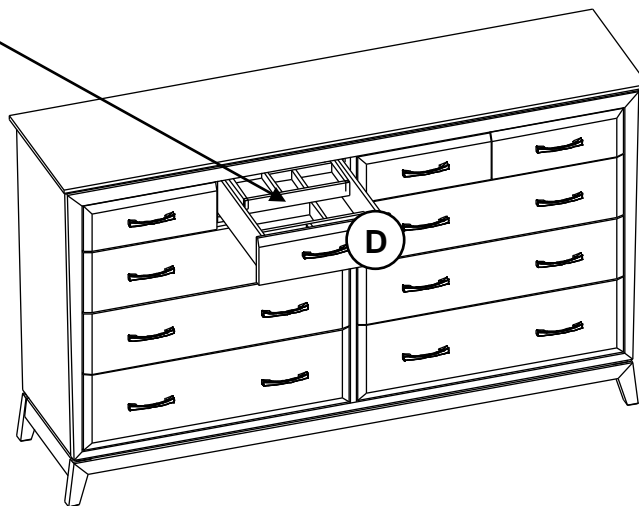

Fig. 2
2. The dresser includes jewelry storage in the top drawer D. To access the lower jewelry storage area of this drawer slide upper section back into the case. See Figures 2 and 2a.